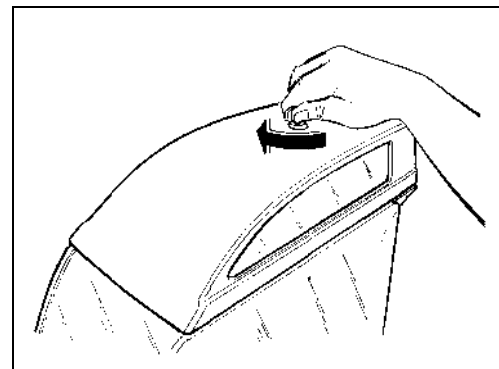

Fig. 5
- Remove the luminous cover after unblocking it by turning its special key clockwise (see fig.5).